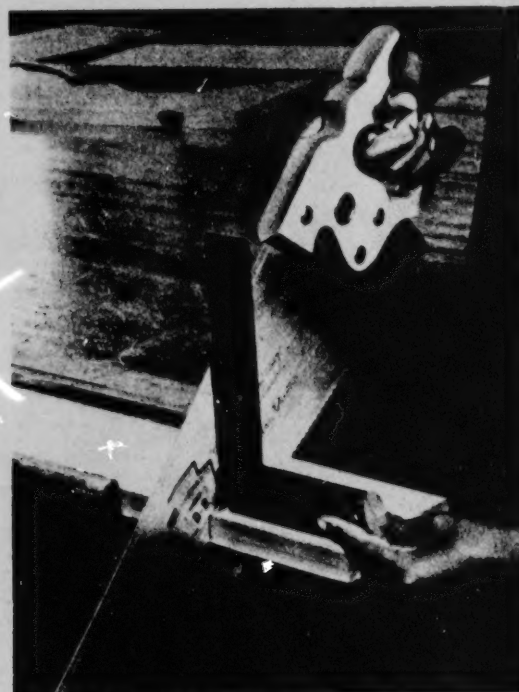

Figure 4-9 Checking for squarness
7. Use a try square to see if you are holding the saw at right angles to your board (Figure 4-9).